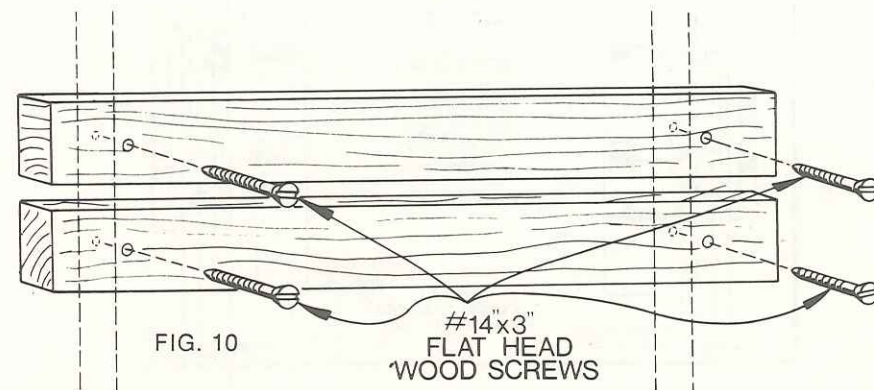

FIG. 10
11. Mount these boards horizontally across the wall as shown in Figure 10 using #14 x 3" flat head wood screws (not provided). Tighten securely.